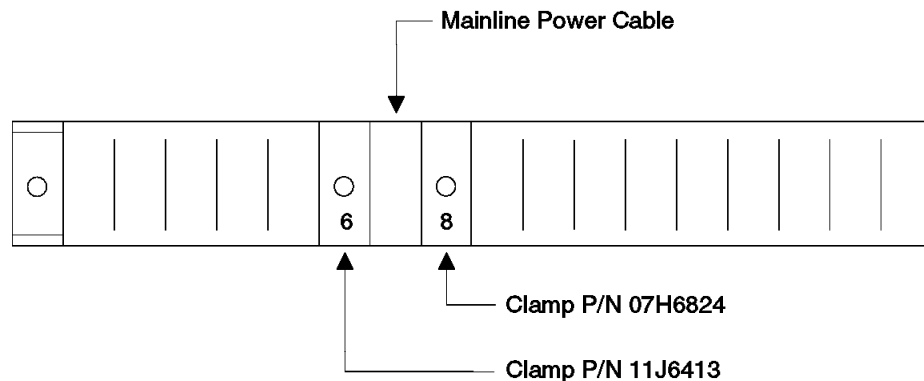

Figure 118. 2105 Model 100 Front and Rear Tailgate Cables and Cable Clamp Locations (5007450m)
- Front Tailgate, cable clamp 8, see Figure 118 on page 134
- Rear Tailgate, cable clamp 8, see Figure 118 on page 134